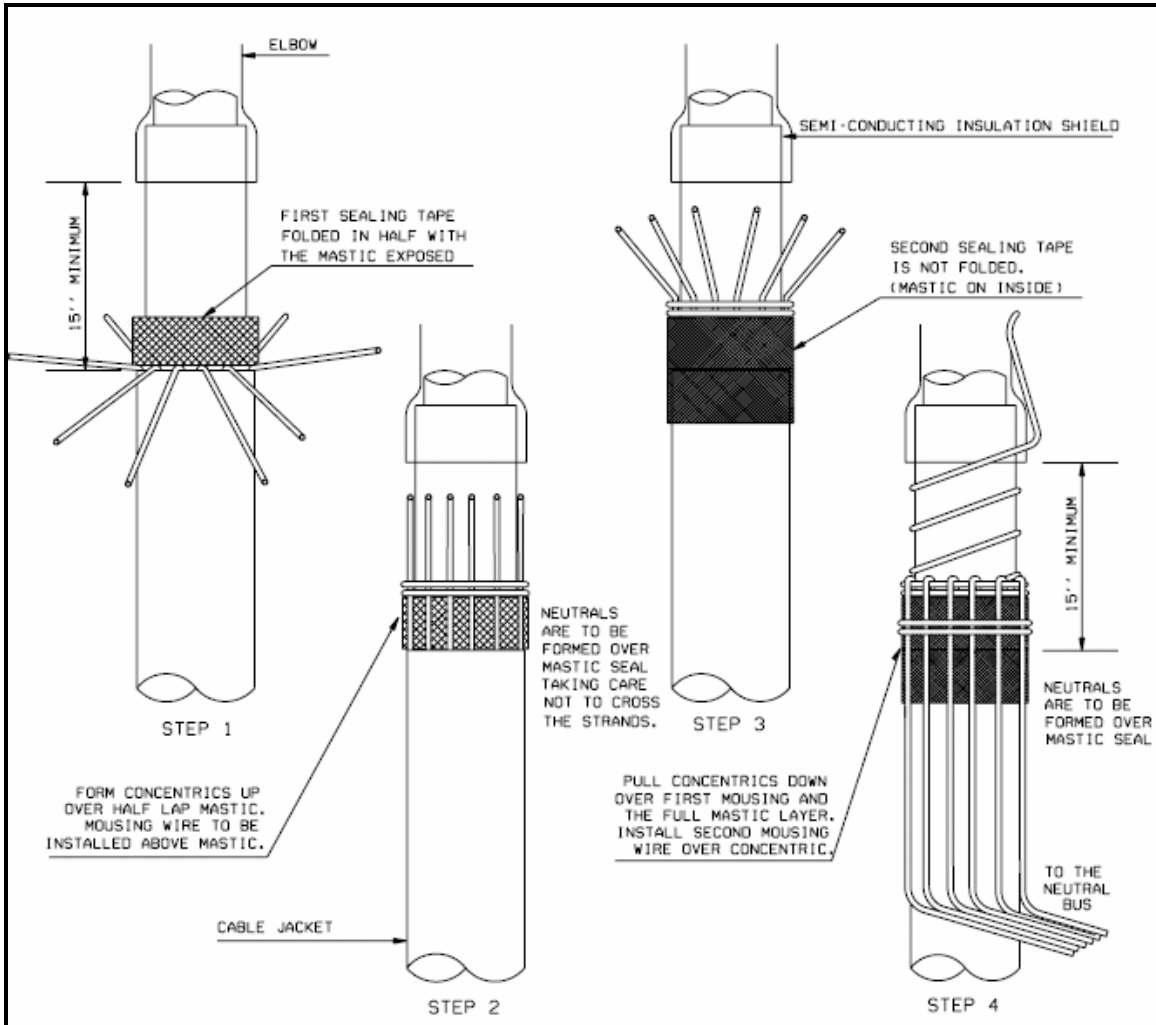

Figure 22 – Illustrated Steps for Cable Jacket Prep (example)
2. Once the jacket has been pulled back from the cable, unwind the neutral wires and fold them back so that they are out of the way. *Figure 22* illustrates an example of how to prep and seal the cable.